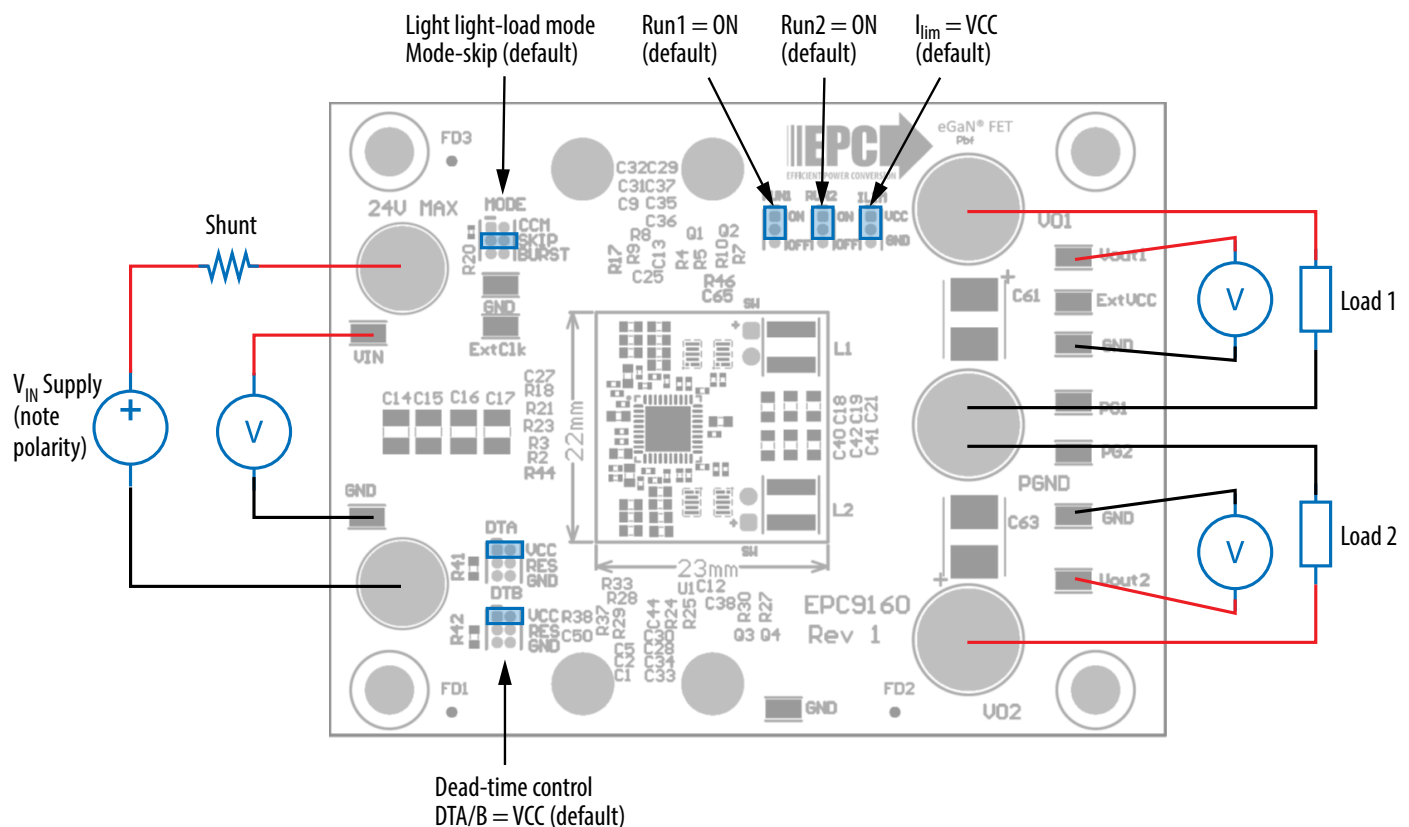

Figure 1: Proper connection set up and default jumper positions
The demonstration board EPC9160 is easy to set up to evaluate the performance of the EPC2055 eGaN FETs and directly drive from the controller IC. Refer to figure 1 for proper connect and measurement setup and follow the procedure below:
1. Check if the jumpers are at its default location as shown in figure 1.
3. With power off, connect a programmable load as needed between Vout1 and/or Vout2 (J4 and J8) and GND (J18) as shown in figure 1.